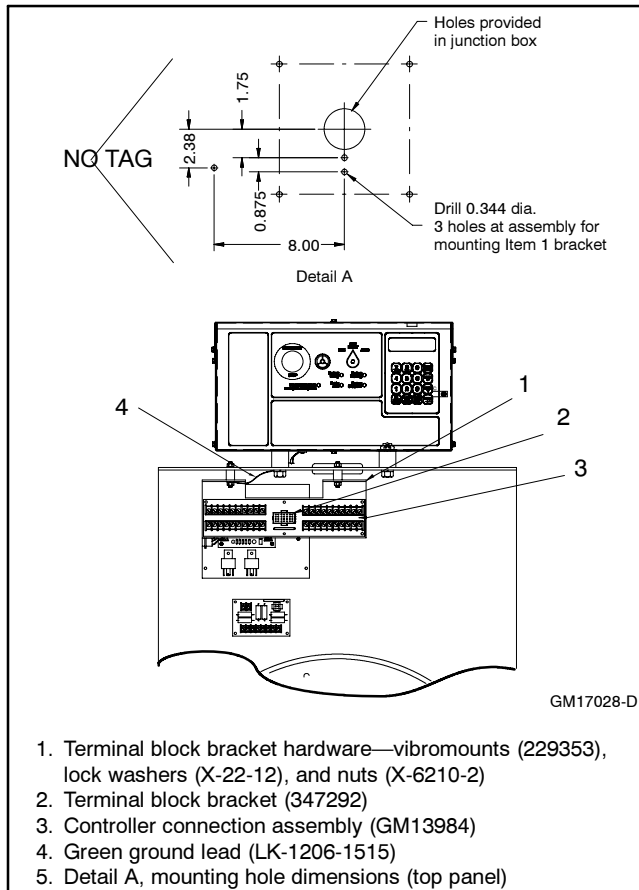

Figure 3 Terminal Block Bracket and Controller Connection Assembly Mounting (350/400 kW)
2.2.2 Remove the four screws attaching the controller to the junction box. See Figure 3.
2.2.3 Mark the drill hole locations where the terminal block bracket (347292) mounts to the junction box top panel using the dimensions given in Figure 3.
2.2.6 Attach three vibromounts (229353) to the terminal block bracket (347292) using three lock washers (X-22-12) and nuts (X-6210-2). Attach one end of green ground lead (LK-1206-1515) between terminal block bracket and nut. See Figure 3.